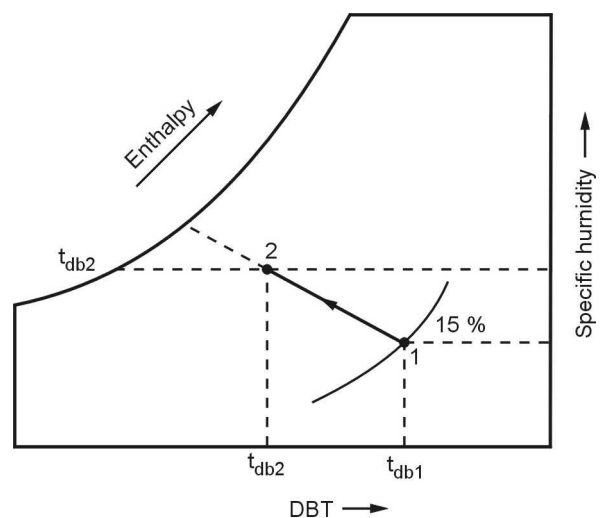

Fig. 5.81
**Sol. :** Refer Fig. 5.81.
- Mark inlet condition of air at  $40^\circ\text{C}$  DBT and  $15\%$  RH lines. This is point 1 as shown in Fig. 5.81.
- Outlet condition is marked on psychrometric chart at  $23^\circ\text{C}$  DBT. Specific humidity of  $0.012 \text{ kg/kg}$  of dry air. This is point 2 as shown in Fig. 5.81.